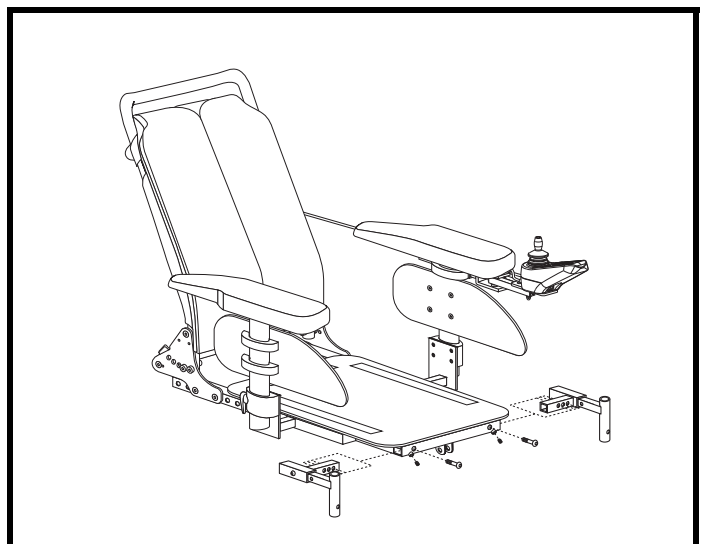

Figure 16. Leg Rest Width Adjustment
2. Loosen the leg rest receiver hardware. **See figure 16.**